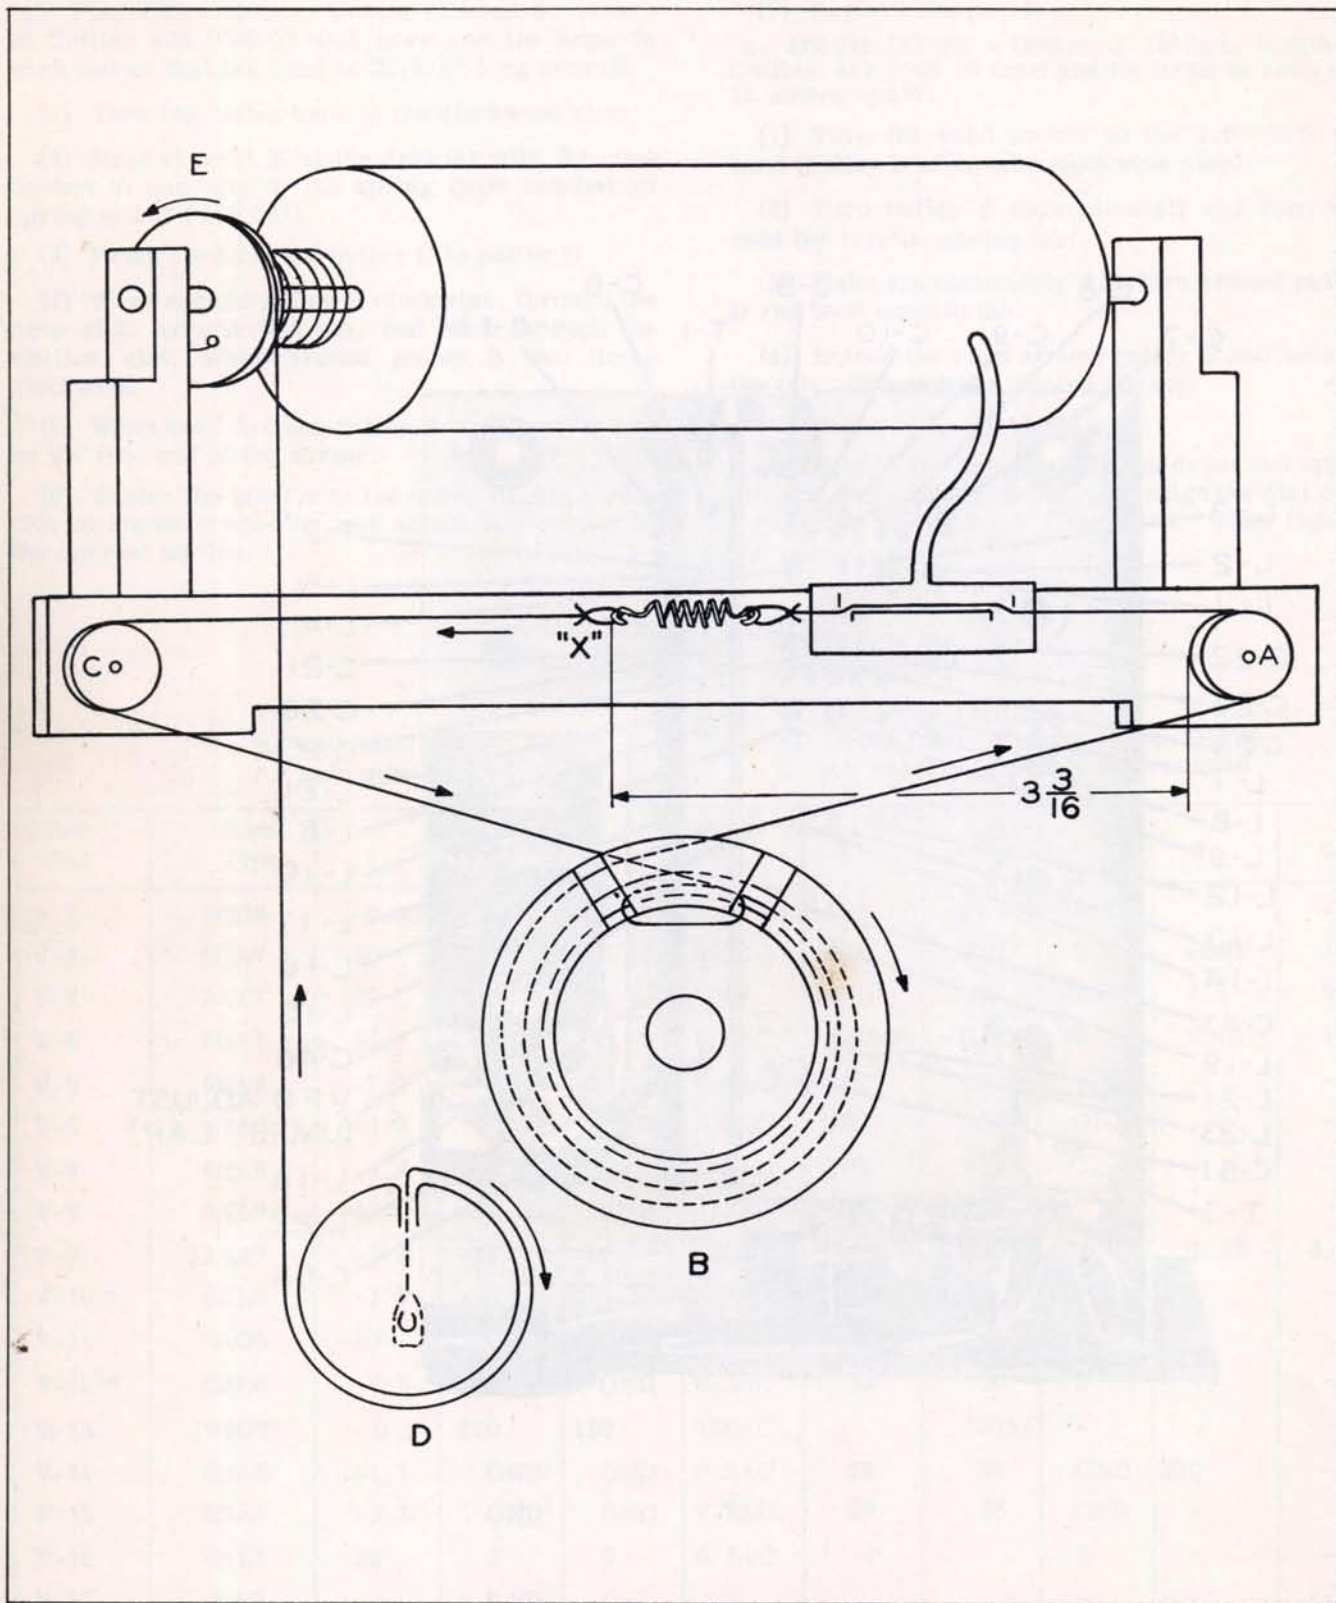

Figure 5-2. Dial Cord Replacement
11. DIAL CORDS. The front panel must be removed for replacement of the dial pointer cord or the drum rotator cord. Figure 5-2 shows both cords in place and the direction in which the re-stringing should proceed.